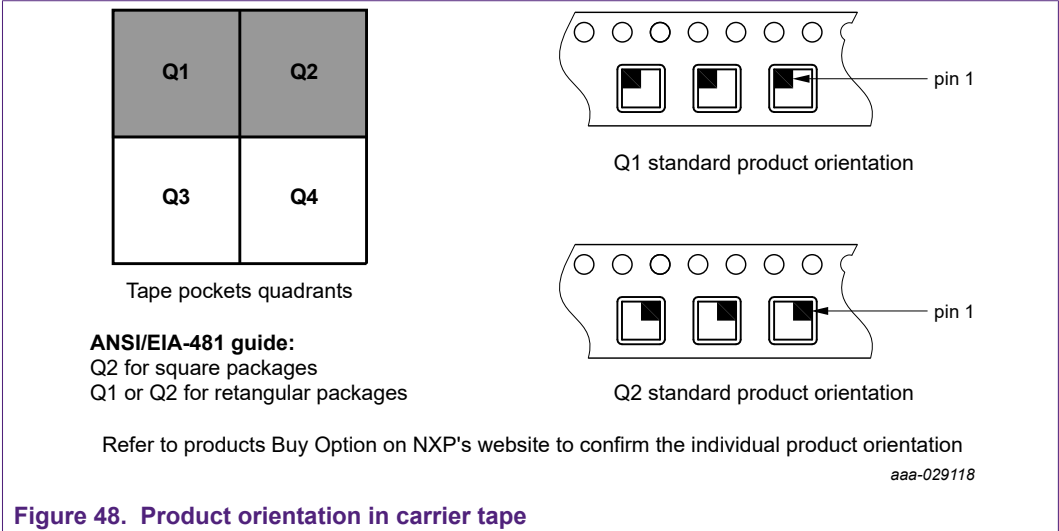

Figure 48. Product orientation in carrier tape
- The product pin 1 orientation in the carrier tape (Figure 48) follows the orientation guide of ANSI/EIA-481 standard, but exceptions are possible depending on the product characteristics. Refer to the Buy Options on NXP's website to confirm the individual product orientation.